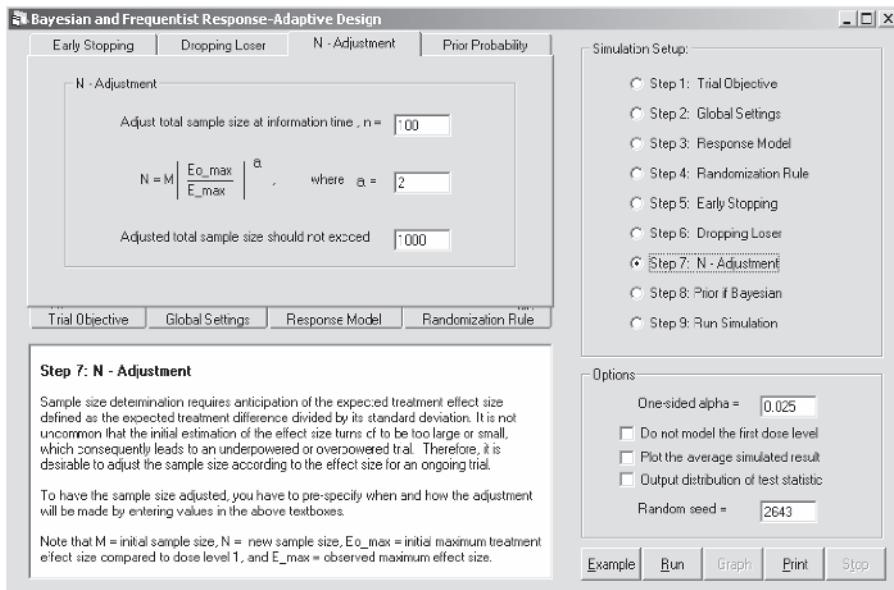

Figure 1.9 Trial simulation window.
7. Click  to save the design specification or report, whichever is highlighted (see Figure 1.9).